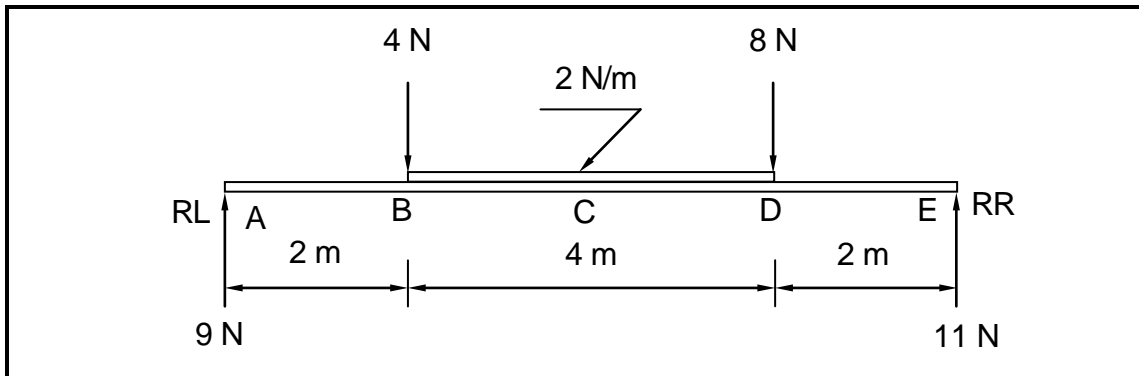

FIGURE 5.3
5.3 FIGURE 5.3 below shows the space diagram of a beam with a span of 8 metres with two point loads and a uniformly distributed load. Study the diagram and answer the questions that follow.
5.3.1 From FIGURE 5.3, deduce the value of the shear forces at **A**, **B**, **D** and **E** and draw the shear force diagram on ANSWER SHEET 5.3. Indicate the value of the shear forces on the diagram. Use scale 5 mm = 1 N. (7)